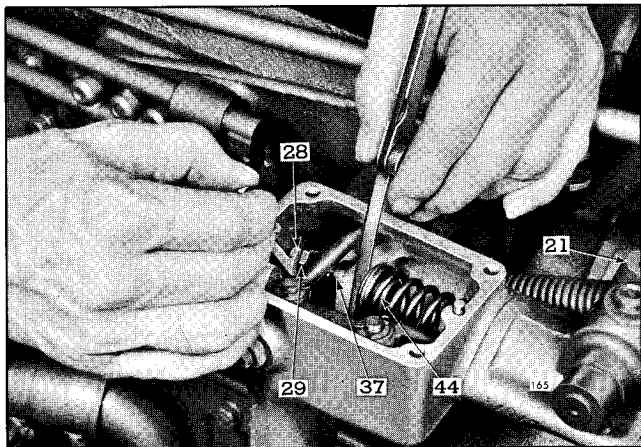

Fig. 1 - Adjusting Governor Gap
2. Place speed control lever (21), Fig. 1, in the FULL FUEL position.
3. Insert a .006" feeler gage between the spring plunger (44) and the plunger guide (37). If required, loosen lock nut (29) and turn adjusting screw (28) in or out until a slight drag is noted on the feeler gage.